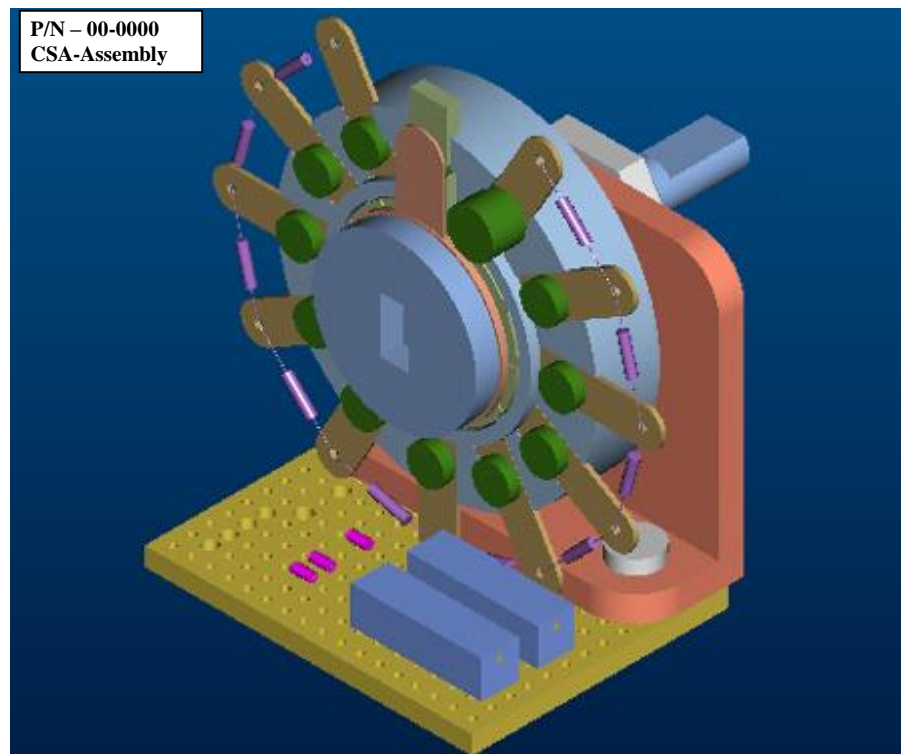

Figure 6: Contact Switch Assembly
9.4 Contact Switch Assembly (00-0000) (Refer to Figure 6):